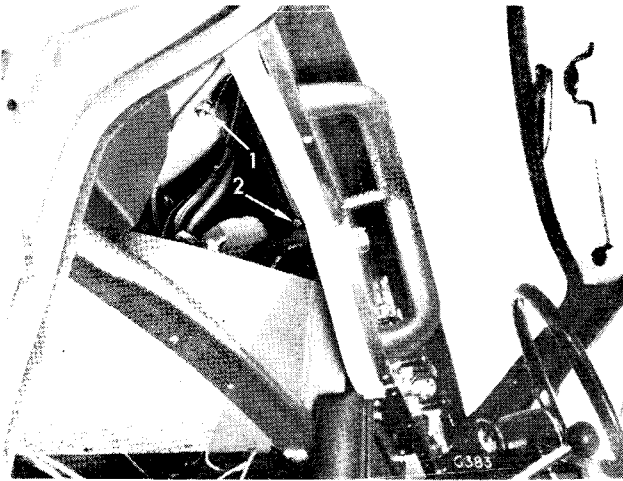

Fig. 43. Demister fishtail
Remove the right-hand demister fishtail, two nuts (2) (Fig. 43).